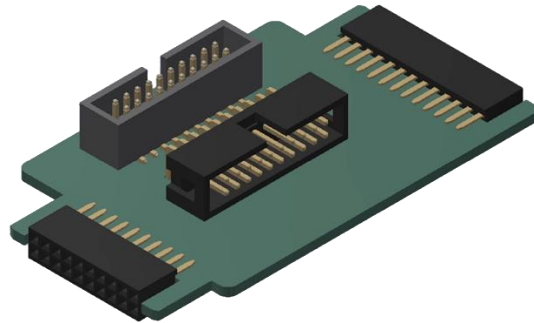
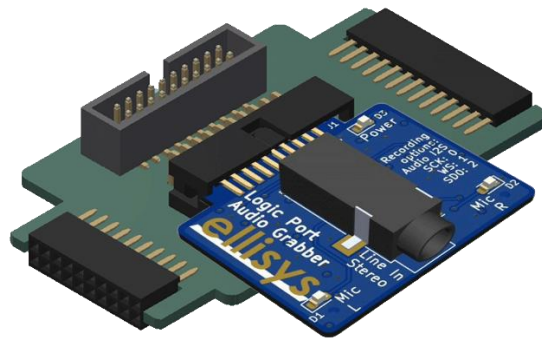

Figure 2 - Adapter for Audio Grabber
Figure 3 - Audio Grabber Inserted into Adapter
The adapter (Figure 2) is used to facilitate concurrent and time-synchronized capture of other signals, when needed, such as I2S digital audio, UART, commonly used audio control protocols like I2C and SPI, logic signals, and other traffic types, by use of a Flying Leads probe (Figure 4), supplied with Ellisys analyzers. See the section titled
Looking at Figure 2 (above), the connector at left will attach to the Logic port on Bluetooth Tracker or Vanguard. The connector on the right attaches to Bluetooth Explorer's Logic port. There are two center-mounted connectors – the perpendicular connector at back allows for insertion of the Flying Leads probe – the size / type normally provided with Tracker and Vanguard; the other accommodates the connection of the Audio Grabber (see Figure 3, below).
1. If the Audio Grabber is to be attached through the adapter (Figure 2), connect the Flying Leads probe (Figure 4), if needed, to the adapter, otherwise proceed to Step 2.
2. If using the Audio Grabber without the adapter, connect it to the Logic connector on the analyzer. If using the adapter, connect the Audio Grabber to the adapter (Figure 3), then attach the adapter to the Logic connector.